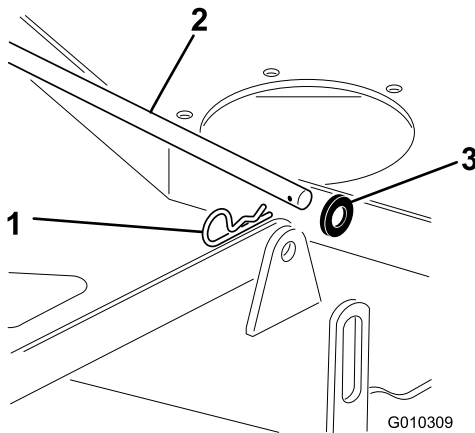

Figure 62
1. Remove the hair pin cotter and washer securing the long, link bar to the frame and deck; remove the link bar (Figure 62).
6. Attach the front support on the mower deck to the front deck hangers and secure them with a washer and hairpin cotter (Figure 62).